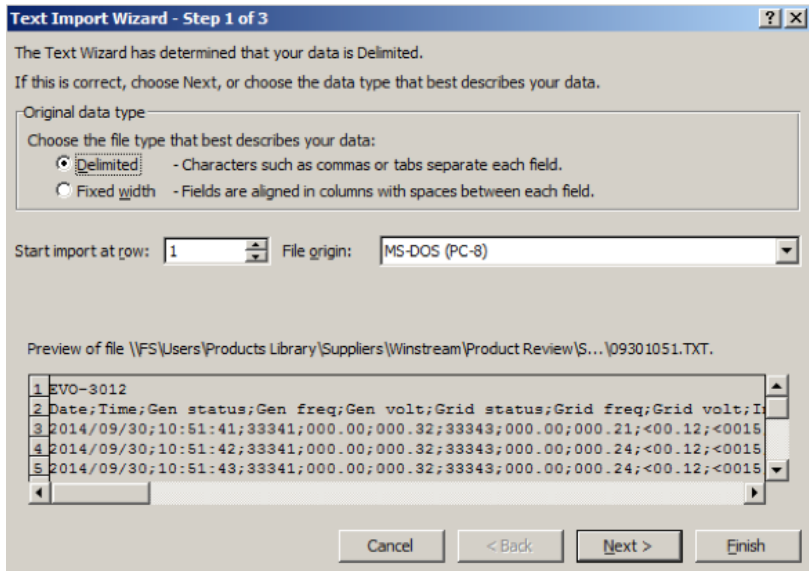

Fig 5.2 Screen Shot of Step 1 of "Text Import Wizard" in Excel
- Text Import Wizard – Step 1 will be shown (Fig 5.2). Choose "Delimited" File Type".